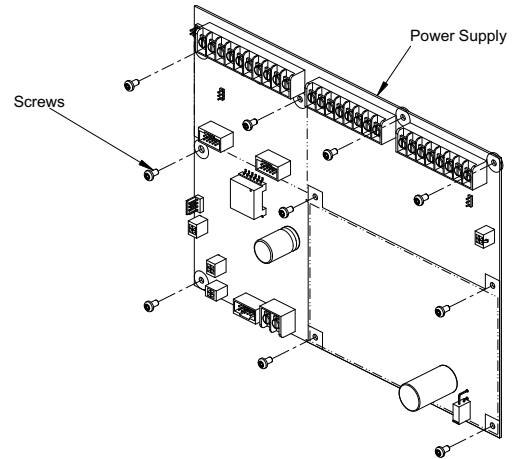

Figure 2-1 Screws location
- To remove the electronics, unscrew the ten screws. Remove the power supply and store it in a safe, clean, and dry location until the panel installation is completed, see Figure 2-1.